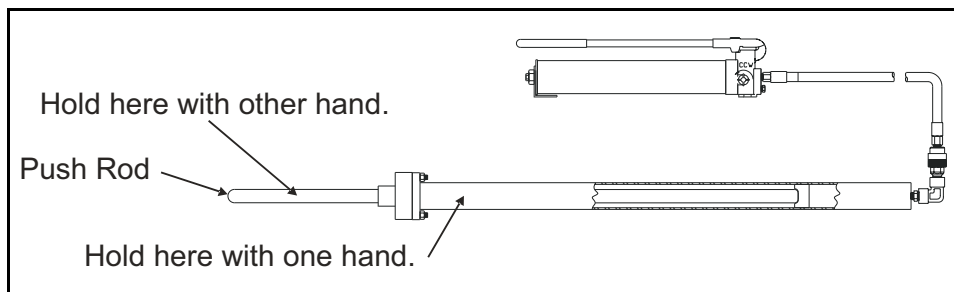

Figure 35: Pushing the Rod into the Cylinder
- Hold the cylinder with one hand, and push the rod with the other hand until the piston bottoms out inside the cylinder (see *Figure 35* below).